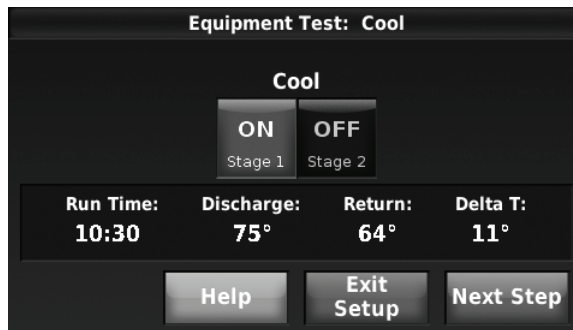

Fig. 158.
- For each stage you test, wait until Delta T begins to stabilize, then turn on the next stage (if present). See Fig. 158 for an example.
4. When setting the run time, select a setting based on when Delta T began to stabilize during the equipment test. In the example shown in Fig. 158 and 160, Delta T began to stabilize around 10-11 minutes.